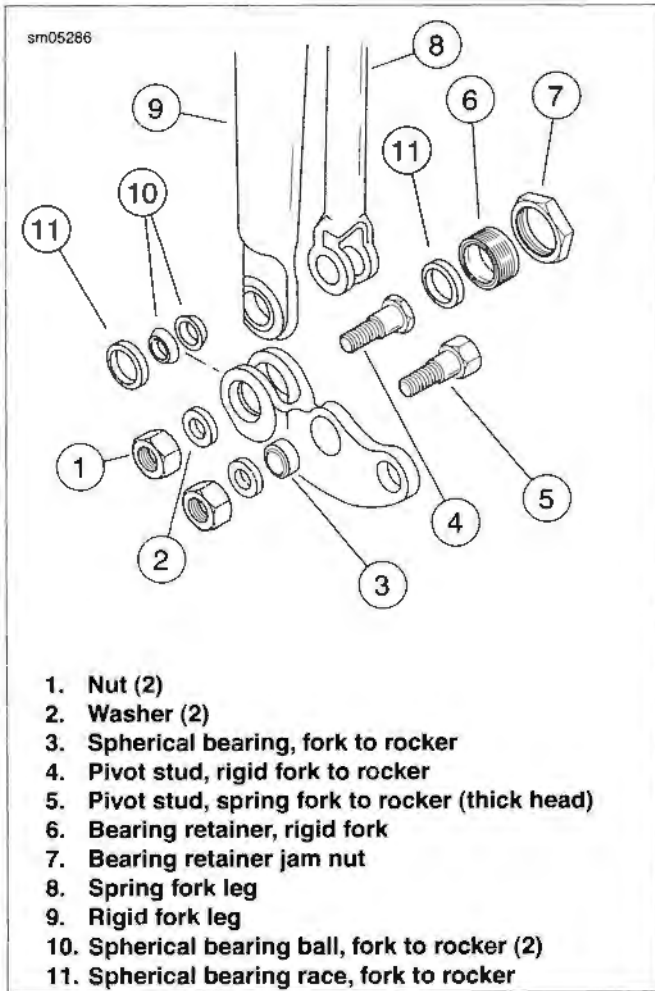

Figure 2-76. Fork Rocker
4. See Figure 2-76. Remove the spring fork to rocker pivot studs (5), washers (2), and nuts (1) from rocker.
5. Remove bearing retainer jam nuts (7).
6. Remove bearing retainers (6).
7. Remove nuts (1) from rigid fork pivot studs. Remove rigid fork thin head pivot studs (4) from rockers and rigid fork legs. Remove bearings (10) from thin head pivot studs (4).
2. See Figure 2-76. Grease rocker bearing race with a finger full of grease. Place one bearing half (10) in rocker race with spherical surface against the race.
3. Place other half of bearing on pivot stud (4) with spherical surface towards stud head.
6. Install thick washer (2) and nut (1). Use LOCTITE THREADLOCKER 243 (blue) on acorn nut. Tighten nut to 45-50 ft-lbs (61.0-67.8 Nm).
7. Apply LOCTITE ANTI-SEIZE to threads of bearing retainer (6). Apply a finger full of grease on the bearing race. Install bearing retainer. Tighten the retainer to 25-35 in-lbs (2.8-4.0 Nm).
8. Secure bearing retainer by installing jam nut (7). Tighten to 95-105 ft-lbs (128.8-142.4 Nm).